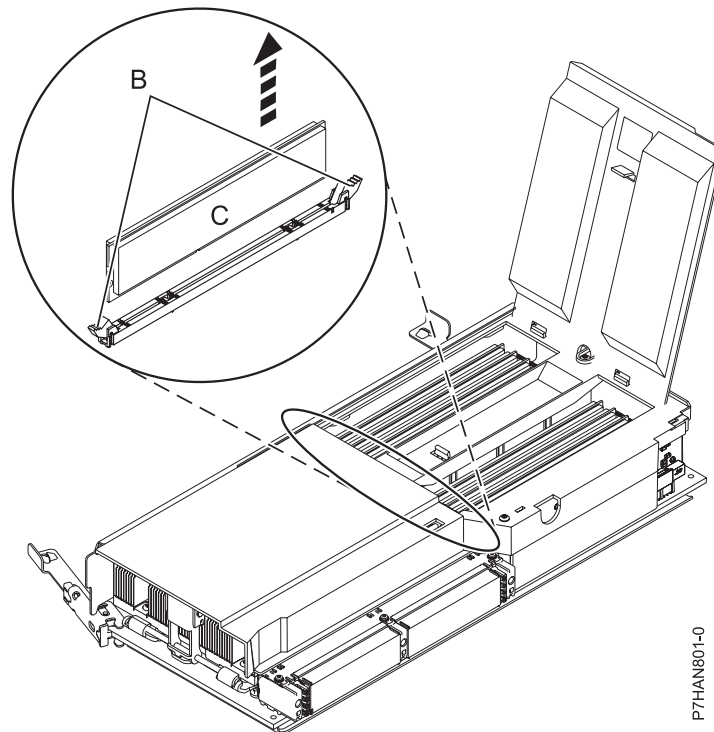

Figure 5. Removing a memory module
11. Unlock the memory module by pushing the locking tabs (**B**) out and down, as shown in Figure 5. Lift the memory module (**C**) out of the connector. The lever action of the tabs forces the memory module out of the connector.